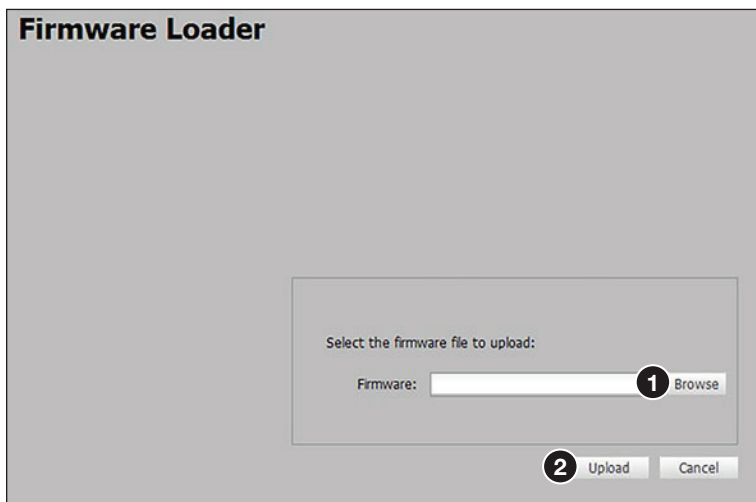

Figure 89. Firmware Loader Page
1. Click **Browse** (see figure 89, **1** on page 111). The Choose File to Upload window opens.